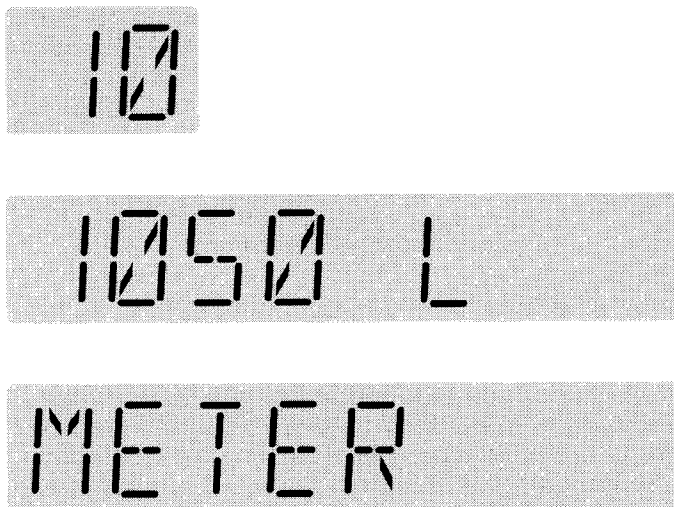

Figure 4-5 Typical Breaker Interface Module Displays
Step 6: When the learning process is complete, the lowest device address will appear in the **Device Address Display**, the device description will appear in the **Description Display**, and **Meter** will appear in the **Function Display** (Figure 4-5).